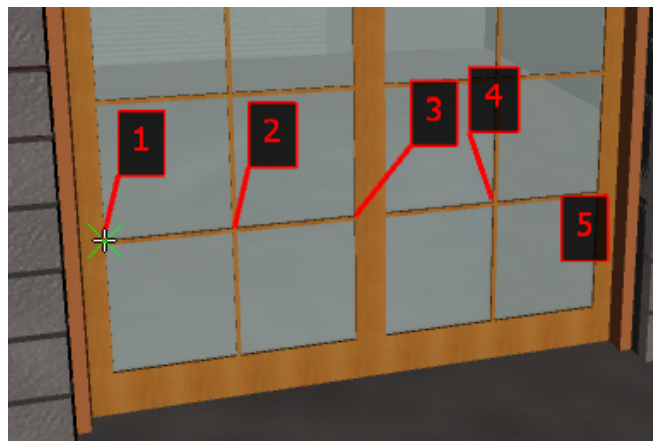

Figure 3-40 The cursor placed at point 1
2. Move and place the cursor at point 1 and click when the snap to vertex cursor appears, as shown in Figure 3-40.